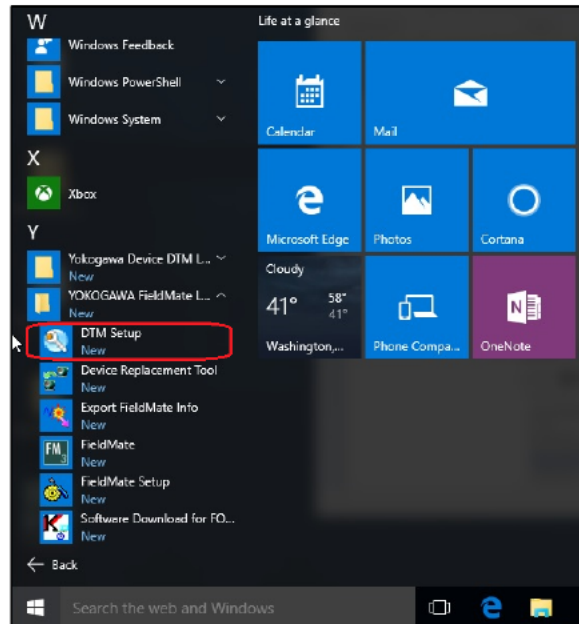

Figure 5-1 Windows menu
- ① Launch the DTM Setup Tool from Windows' Start menu ⇒ YOKOGAWA FieldMate Lite ⇒ DTM Setup. (Figure 5-1)